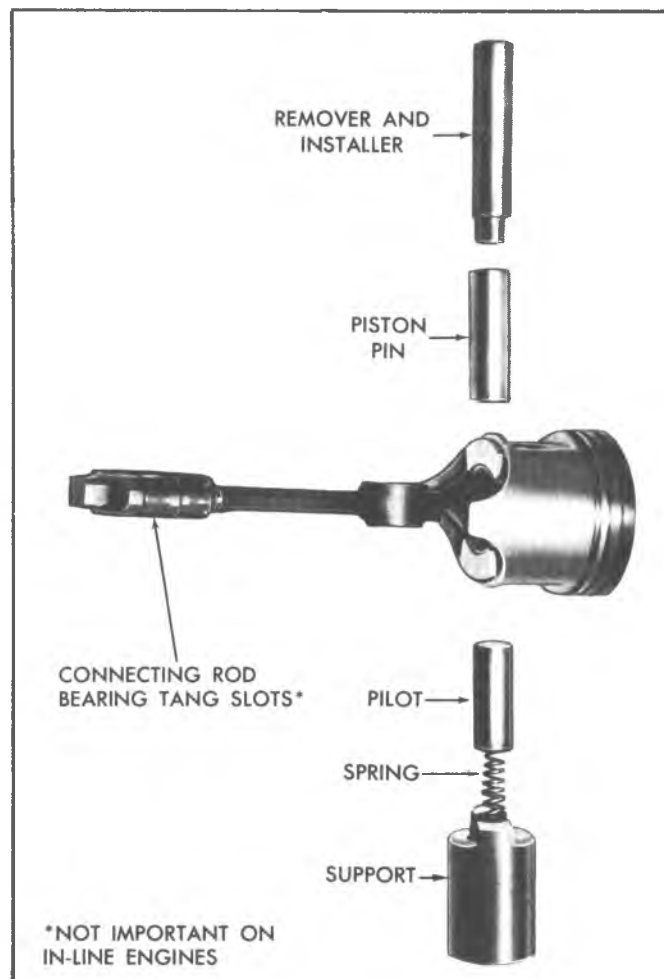
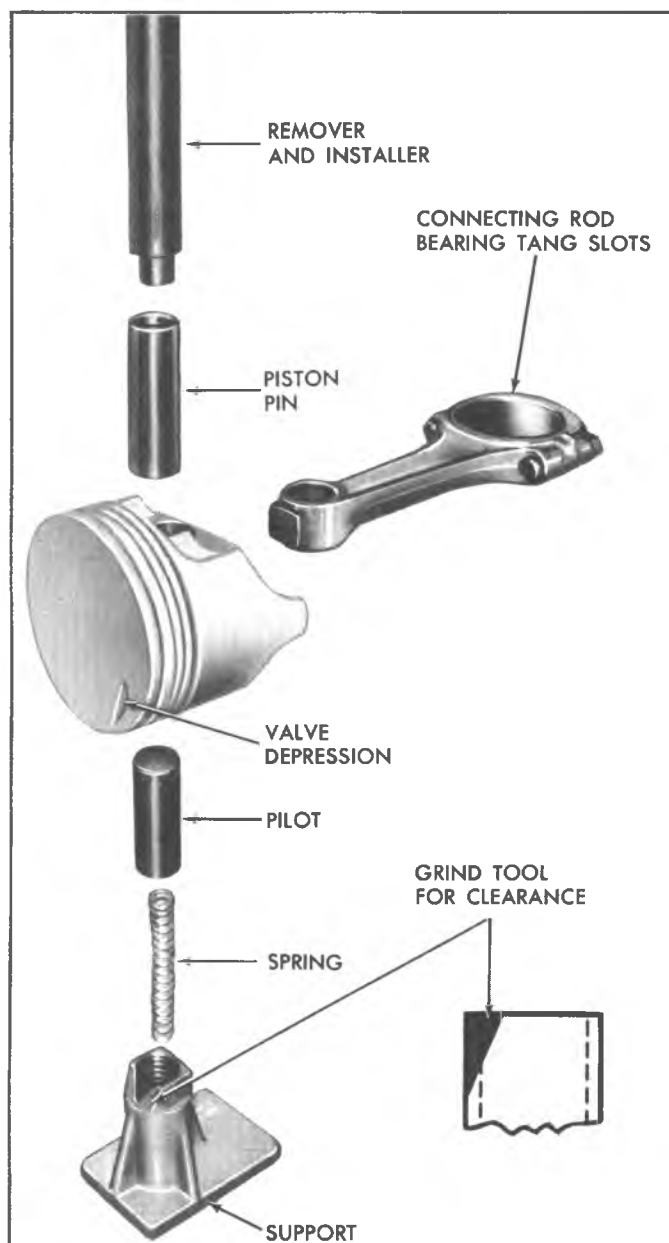
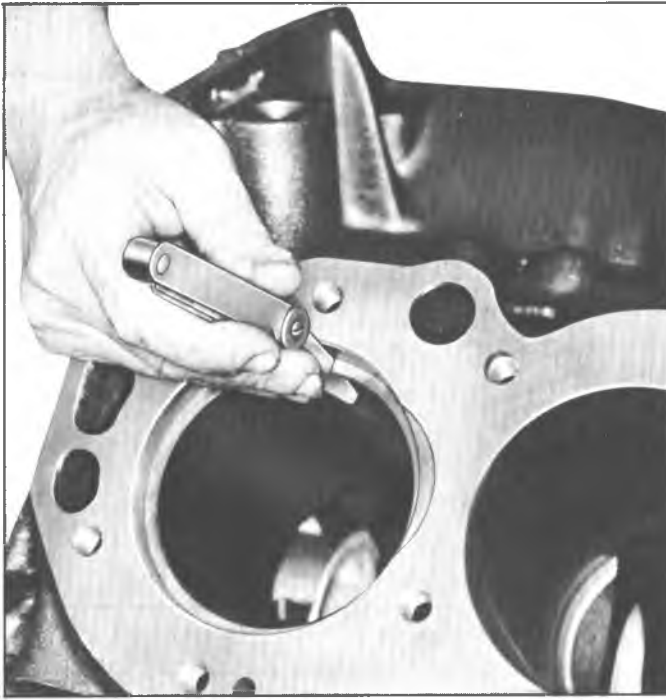

Fig. 52—Piston Pin and Tool Layout (In-Line and "Small V8")
Fig. 53—Piston Pin and Tool Layout ("Mark IV V8")
Fig. 55—Measuring Ring Gap
2. Using Tool J-9510 for In-Line and "Small V8" (fig. 52) or Tool J-6994 for "Mark IV V8" (fig. 53) place Support with spring and pilot in place on an arbor press.
3. Position piston on connecting rod with appropriate side of piston (fig. 55) and connecting rod bearing tangs aligned (fig. 52 or 53).
3. Measure the space or gap between the ends of the ring with a feeler gauge (fig. 55).